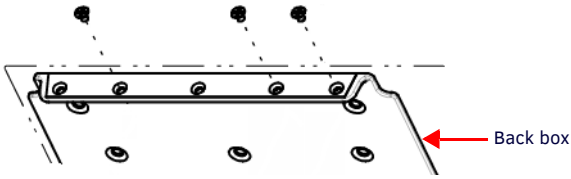

FIG. 6 SECURE THE PANEL TO THE BACK BOX VIA SCREW HOLES IN BACK BOX
- Use the included 4-40 screws to secure the touch panel onto the back box (FIG. 6). There are five screw holes to use for securing the panel on the left and right side of the back box (landscape installation; for a portrait installation, the holes are located on the top and bottom of the back box.)